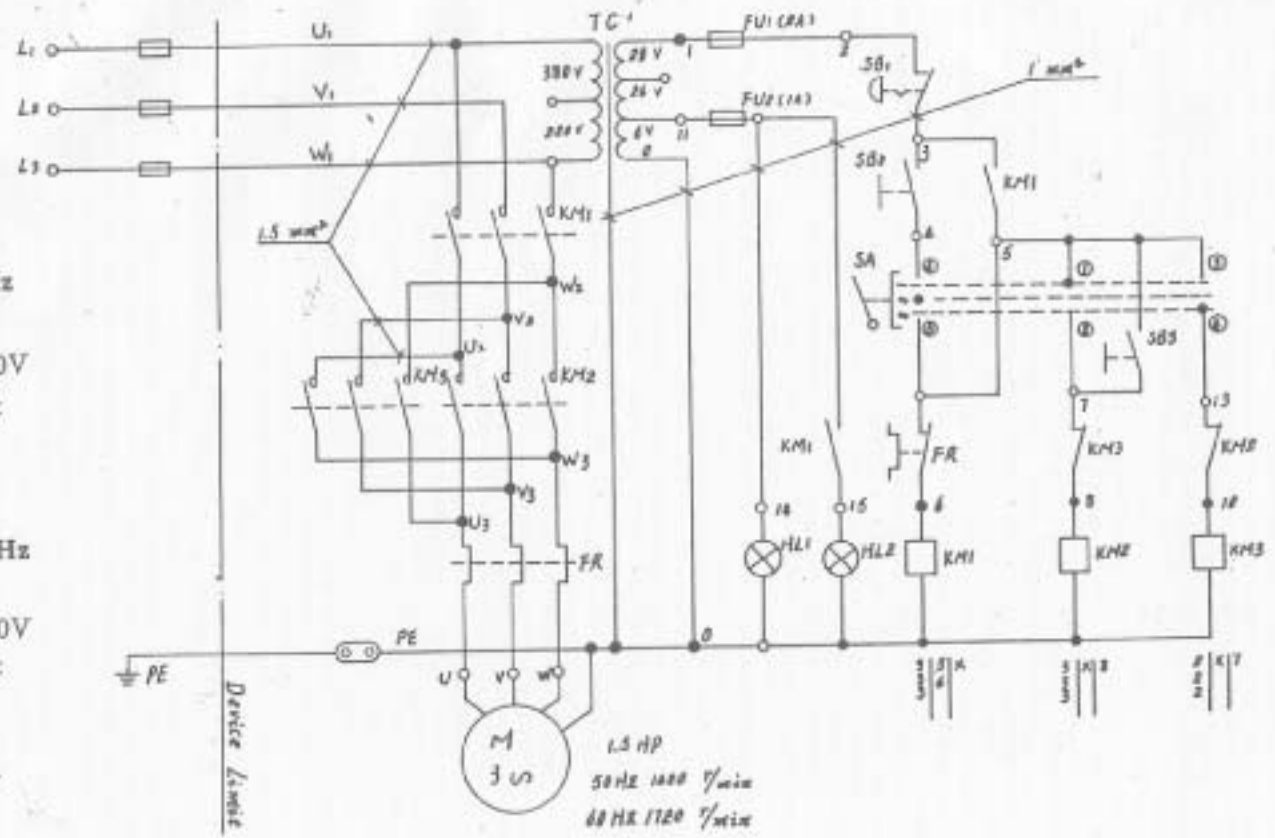

Fig. 7 Wiring Diagram For 3 Phase
- The standard lathe are wired for 220v/380v 3 phase 60 & 50 Cycle [See Fig. 7] or for 110v/220v 1 phase 60 & 50 cycle (See Fig.10) according to order. For connection to motor (1 phase, 110v/220v), please see Fig.14 transferring connection diagram.